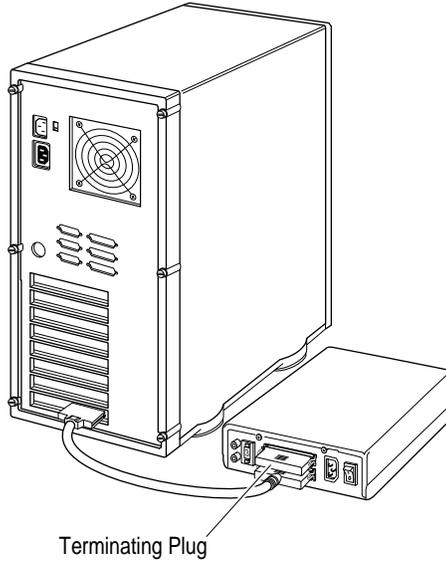

Figure 2-8. Attaching a Single External Device
- 3** Attach the connector at the other end of the cable to either one of the SCSI connectors on the external SCSI device, as shown in Figure 2-8. (If you are installing only one external device, attach a terminating plug to the device.)
To properly terminate the SCSI channel(s) on your system, refer to the motherboard documentation. On most internal SCSI devices, the termination setting is controlled by setting a jumper or a switch, or by physically removing or installing a resistor module(s). On most external SCSI devices, termination is controlled by installing or removing a terminating plug (see Figures 2-8 and 2-9). Refer to the device's documentation to determine how to enable or disable termination on your particular SCSI device.